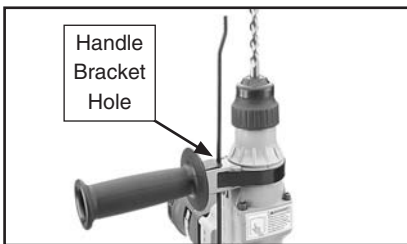

Figure 5. Depth stop attached.
2. Loosen the auxiliary handle and slide the depth stop into the hole on the handle bracket (see **Figure 5**).